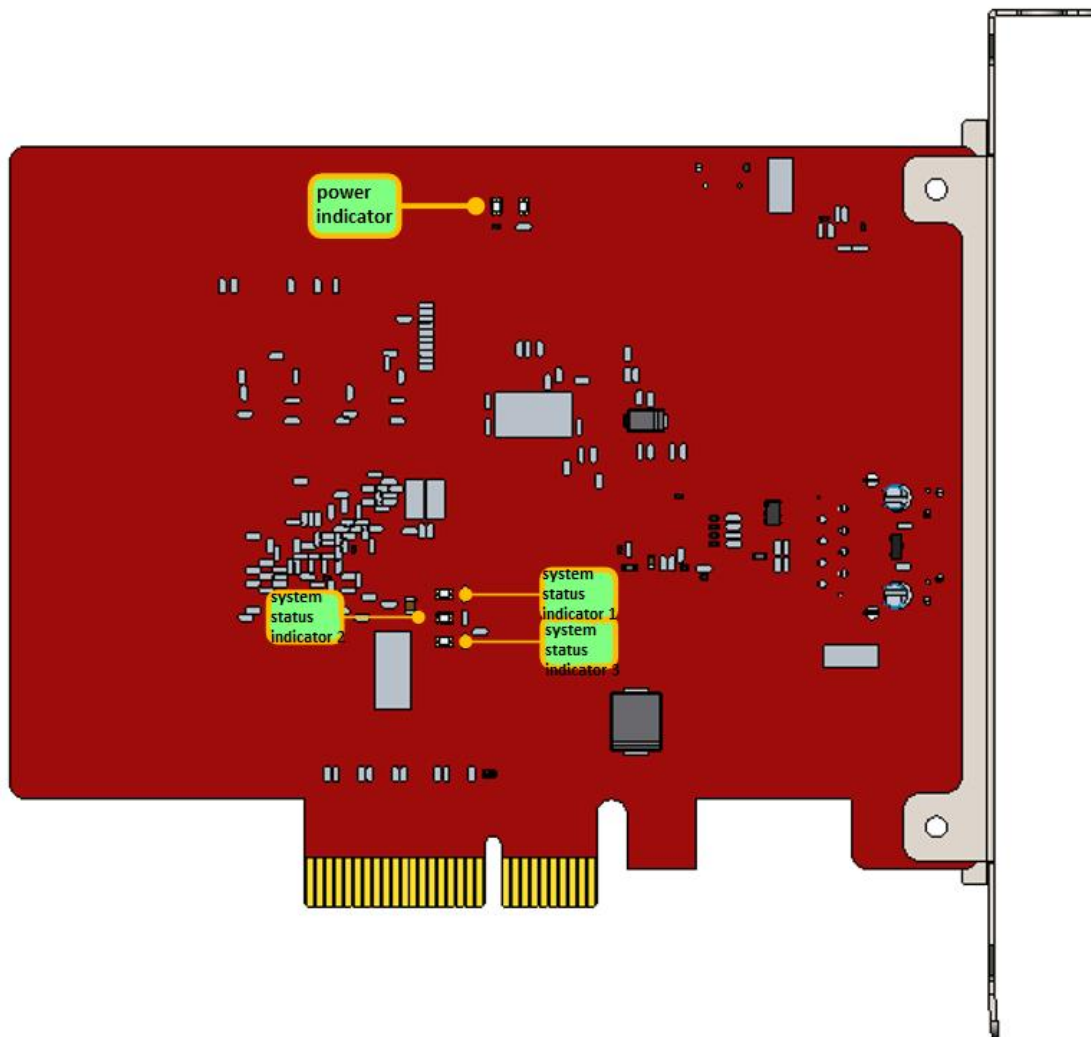

Figure 14 BMC228X Indicators
1. Check the status of the indicators on BMC228X. The positions of the power indicator and system status indicator are shown in Figure 14